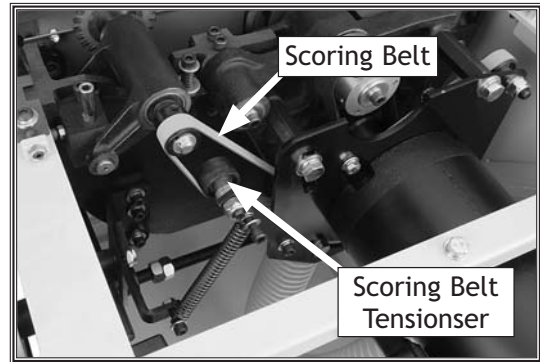

Figure 95. Replacing the scoring motor belt (table removed for clarity).
4. Pull the tensioner away from the scoring belt (**Figure 95**) to relieve belt tension and remove the scoring belt from the pulleys.